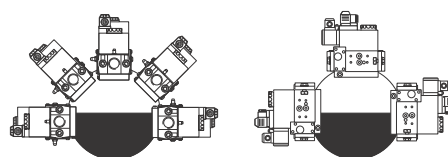

Fig. 9
3. tighten screws A, B, C and D (Fig. 6 - Fig. 7), according to the mounting positions (Fig. 9);